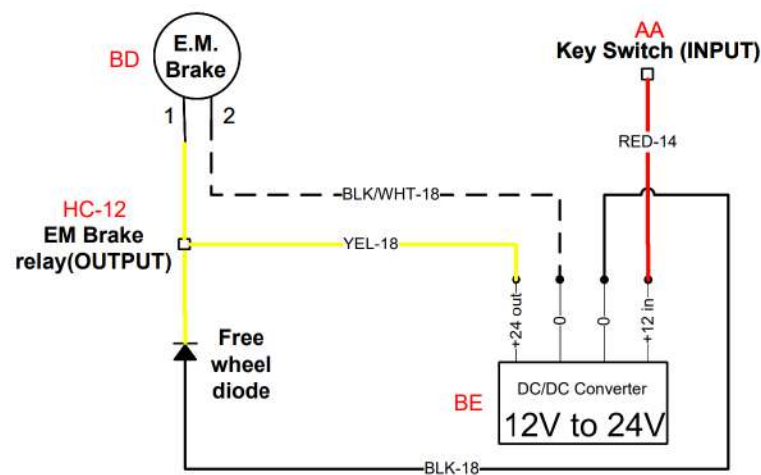

Figure 57. DC/DC Converter Input and Output Terminals Inspection.
2.1.1. Check for the presence of voltage between the positive terminal (**B+**) (Red Wire - 14 AWG) and the negative terminal (**B-**) (Black Wire - 18 AWG) of the DC/DC converter (As shown in Figure 57).
2.2.1. Check for the presence of voltage between the Yellow wire (18 AWG) and the Black/White wire (18 AWG) of the DC/DC converter (As shown in Figure 57).